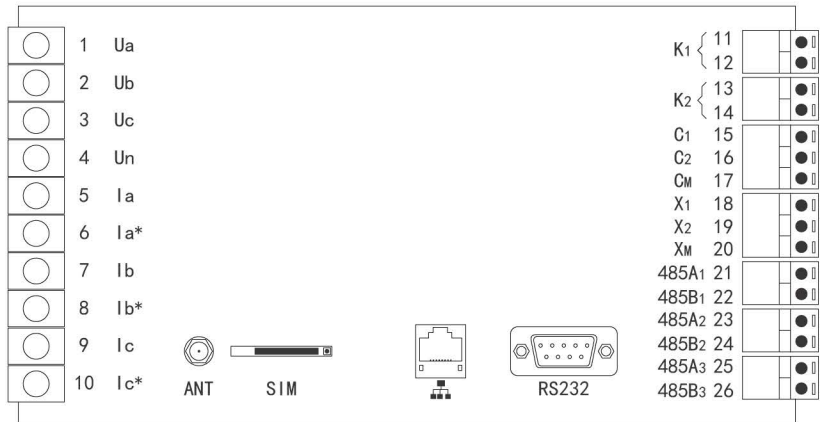

Figure 10 Wiring terminal diagram of front-end device
1) The wiring terminals of the front-end device is displayed in Figure 10, and the definition of which is shown in Table 4.